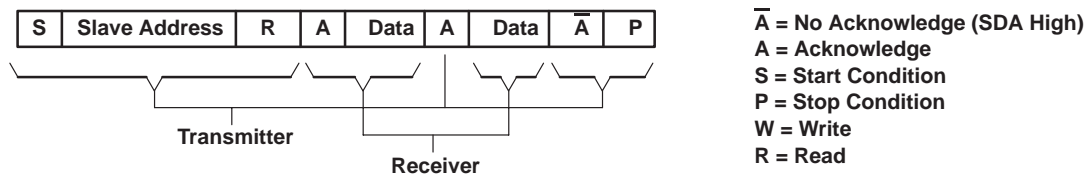
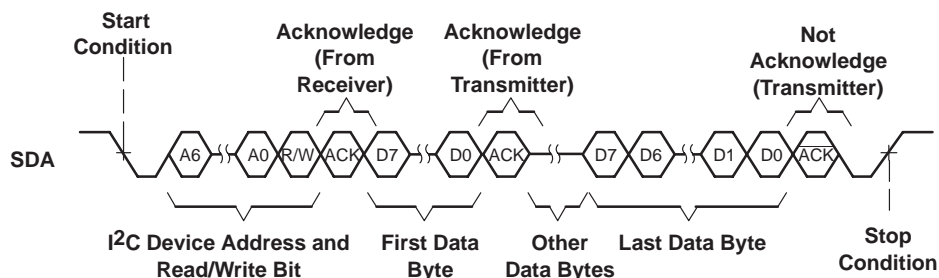

Figure 30. I²C Read Cycle
Figure 31. Multiple Byte Read Transfer
During a read cycle, the slave receiver will acknowledge the initial address byte if it decodes the address as its address. Following this initial acknowledge by the slave, the master device becomes a receiver and acknowledges data bytes sent by the slave. When the master has received all of the requested data bytes from the slave, the not acknowledge (\bar{A}) condition is initiated by the master by keeping the SDA signal high just before it asserts the stop (P) condition. This sequence terminates a read cycle as shown in Figure 30 and Figure 31.